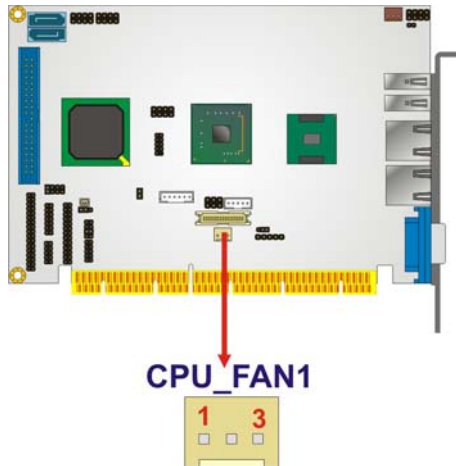

Figure 4-10: CPU Fan Connector Location
- CN Location:** See **Figure 4-10**